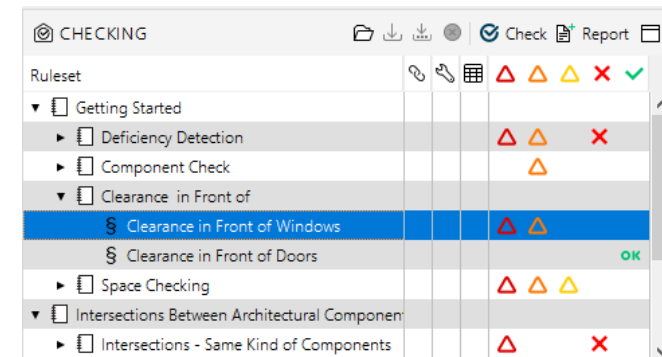

Figure 58: Clearance in Front of Windows rule
- (1) Open the "Clearance in Front of" branch in the **Checking Tree Table** and the next level "Clearance in Front of Windows" (see Figure 58).